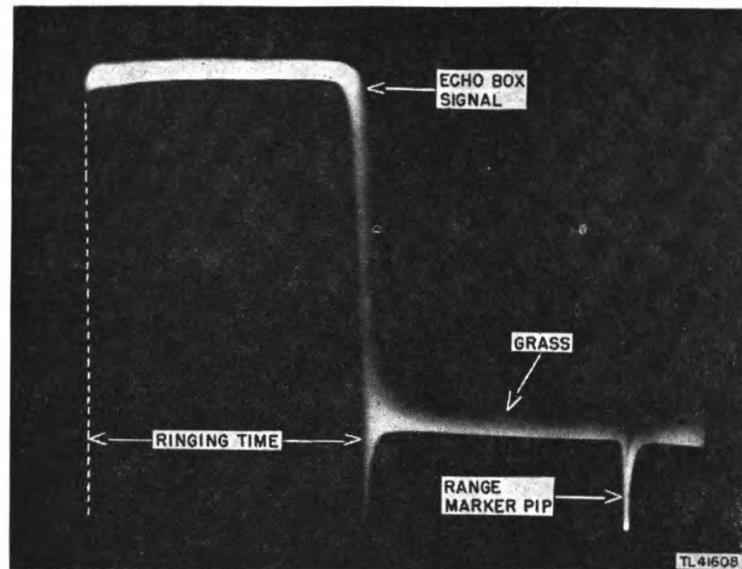

Figure 3. Echo box signal on A-scope.
a. After the radar set has been operating for at least 30 minutes, adjust the echo box plunger by means of the knurled handle on top of the cavity until the maximum ringing time is obtained as shown by the width of the echo box signal on the radar scopes (fig. 3).
d. Ringing Time. Because of the large amount of power received and returned by the echo box, the received signals will, for the most part, appear on the range indicators as a solid block with a flat top at the receiver-saturation amplitude, as shown in figures 3 and 6-A. The oscillations die out exponentially, and this portion of